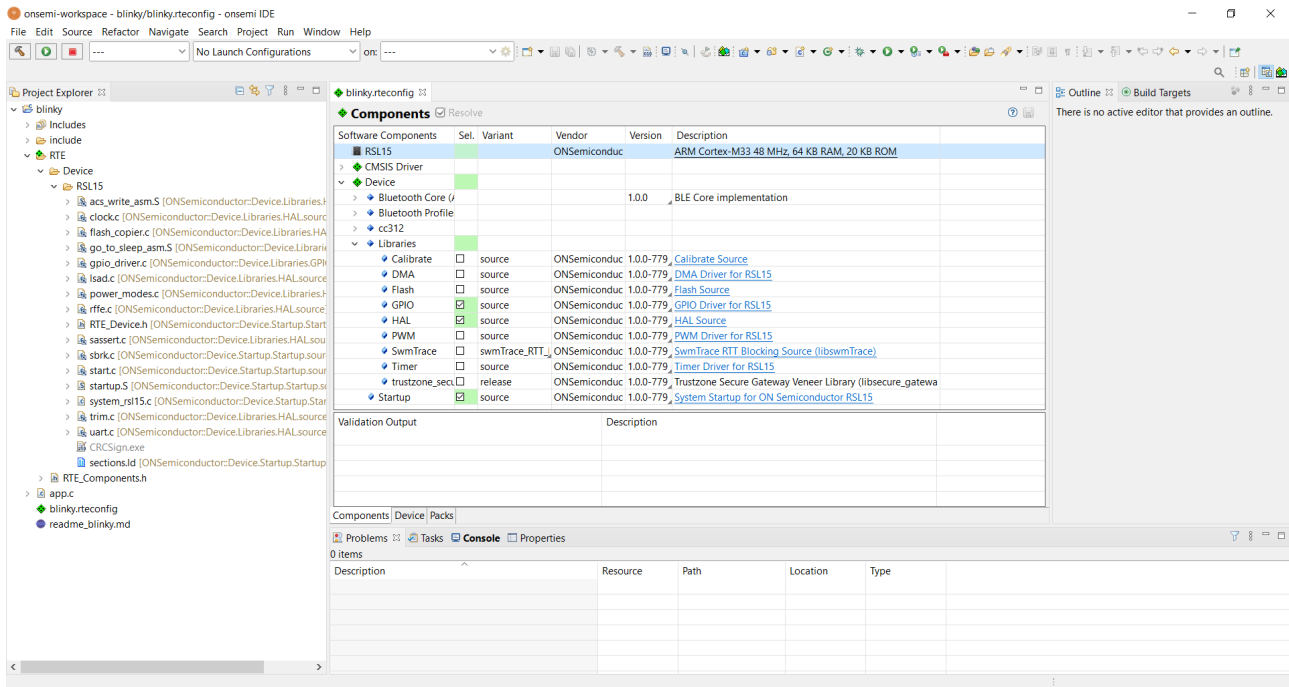

Figure 9. RTE Configuration for the Blinky Example Project in the onsemi IDE
3. The C/C++ perspective opens and displays your newly copied project. In the **Project Explorer** panel, you can expand your project folder and explore the files inside your project. Double-click on the file names to open them. In the Components view, the *blinky.rteconfig* file displays software components. If you expand **Device** > **Libraries** in the Components view, you can see the **HAL** library and the **Startup** components selected for *blinky*. (See the figure "RTE Configuration for the Blinky Example Project in the onsemi IDE" (Figure 9).)